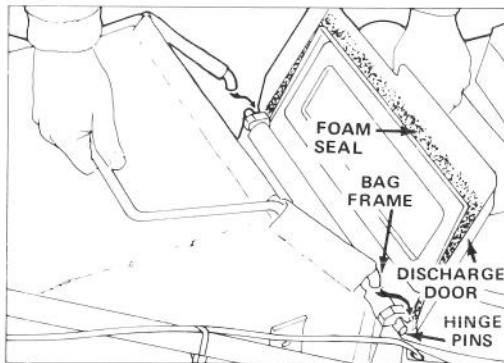

Figure 13
2. **INSTALLING BAG** — Raise discharge door and hook bag frame onto hinge pins (Fig. 13). Allow bag to rest on mower housing over discharge opening. Close door and make sure it seals around top of bag opening.